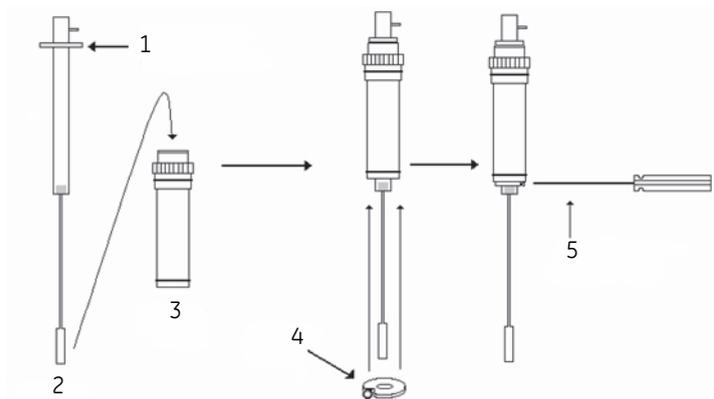

Figure 3-3. Pipette assembly.
To assemble the pipette, please do the following (please refer to diagrams in *Figure 3-3*):
- 1 Insert an injection syringe into the syringe holder until the top syringe clamp is firmly seated against the top of the syringe holder, being careful not to bend the needle against the inside of the holder. (See *Figure 3-3*)
Table 3-3. Parts in *Figure 3-3*.